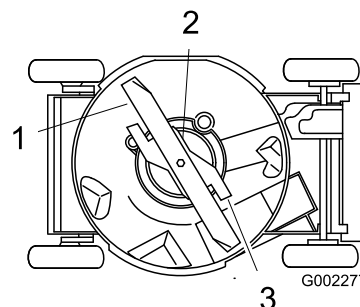

Figure 28
4. Tip the mower onto its **left** side (air cleaner up) (Figure 28).